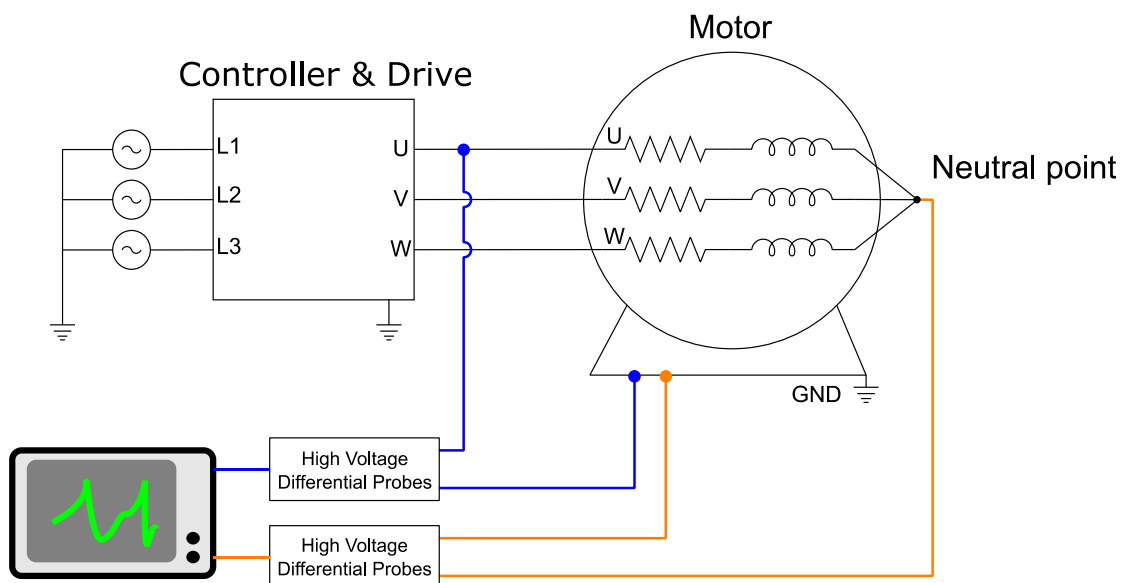

Figure 3.3.16 The wiring diagram of neutral point measurement.
- (1) Disconnect the power supply and protect it from being switched back on.
- (2) Wire according to the wiring diagram (Figure 3.3.16), and use a high-voltage differential probe to connect to the following two points: